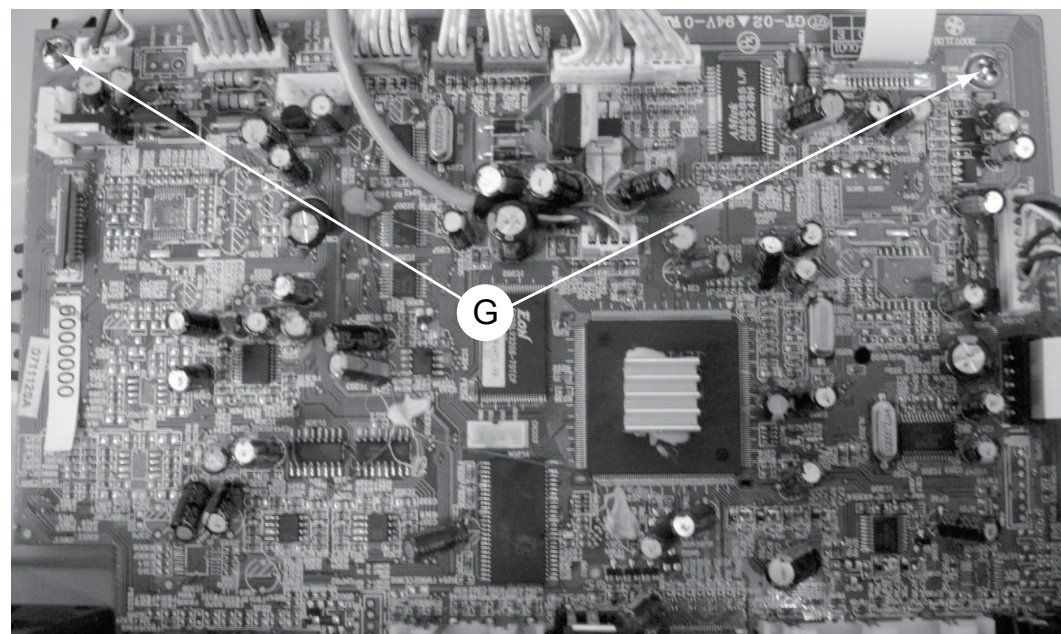

Figure 10
- 1) Loosen 2 screws “G” on the top of main board as shown in figure10